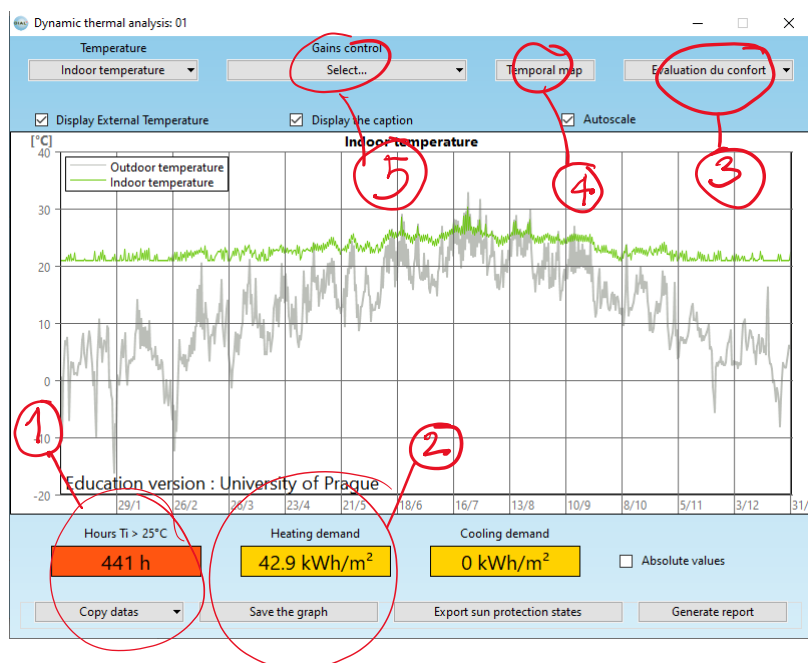

Fig 3: Thermal analysis after implementing the heating systems
Assess (see fig. 3) the number of overheated hours (1) and total heating demand (2), check the thermal comfort temperature distribution (3) as well as the temporal map (4). Heat gains caused by each opening separately can be find in Gain control analyses (5)